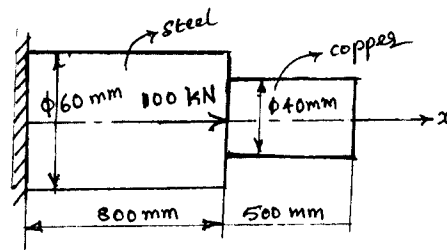

Fig. Q3(b)
- b. Determine the nodal displacement, elemental stresses and support reaction of the bar shown in the Fig. Q3(b). Take $E_{\text{steel}} = 200 \text{ GPa}$; $E_{\text{copper}} = 100 \text{ GPa}$. (10 Marks)